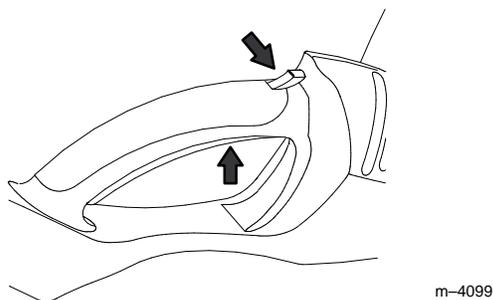

Figure 11
2. Push the lock-off button and squeeze the trigger (Fig. 11).